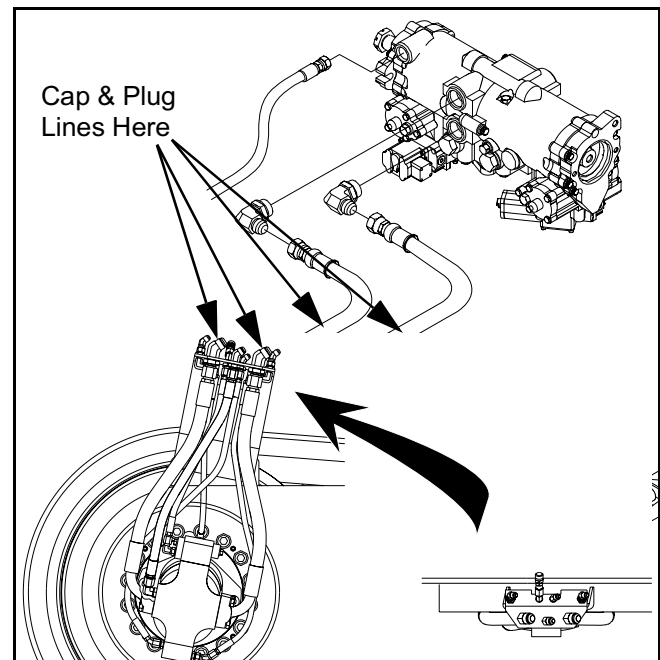

Figure 5 - 5 Travel Motor Bulkhead
- 1) Disconnect, cap and plug travel pump high pressure lines at motor bulkhead. (Figure 5 - 5)
- 2) Install two 10,000 PSI pressure gauges in the high pressure gauge ports. (Figure 5 - 6)